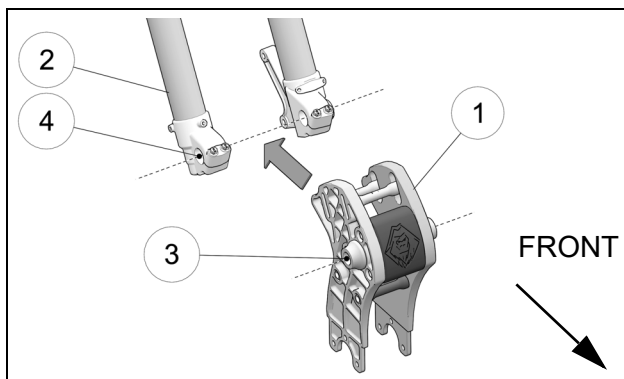

Figure 9
- Position spindle assembly (1) between front forks (2) and align axle spacers (3) with fork axle mounting points (4). See Figure 9.